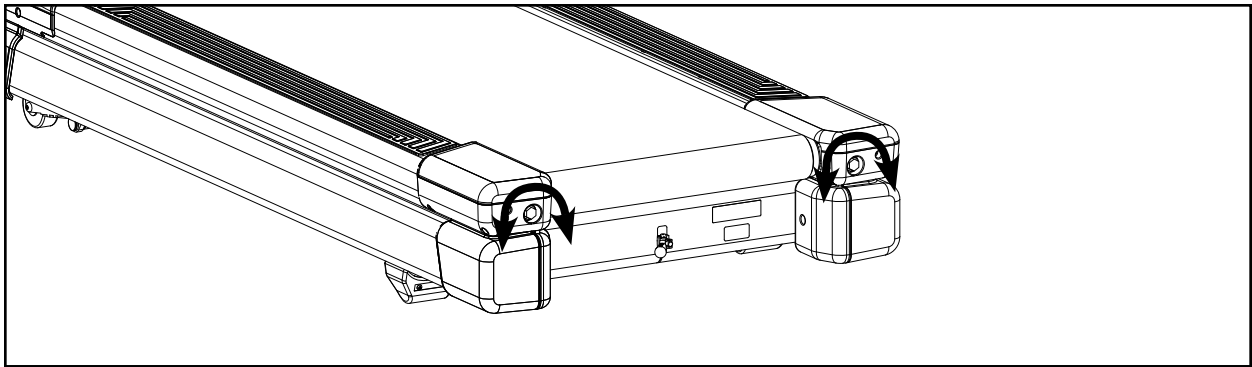

Figure 1
- A. Use a 3/4" socket wrench to turn each bolt 1/2 turn clockwise. See Figure 1.